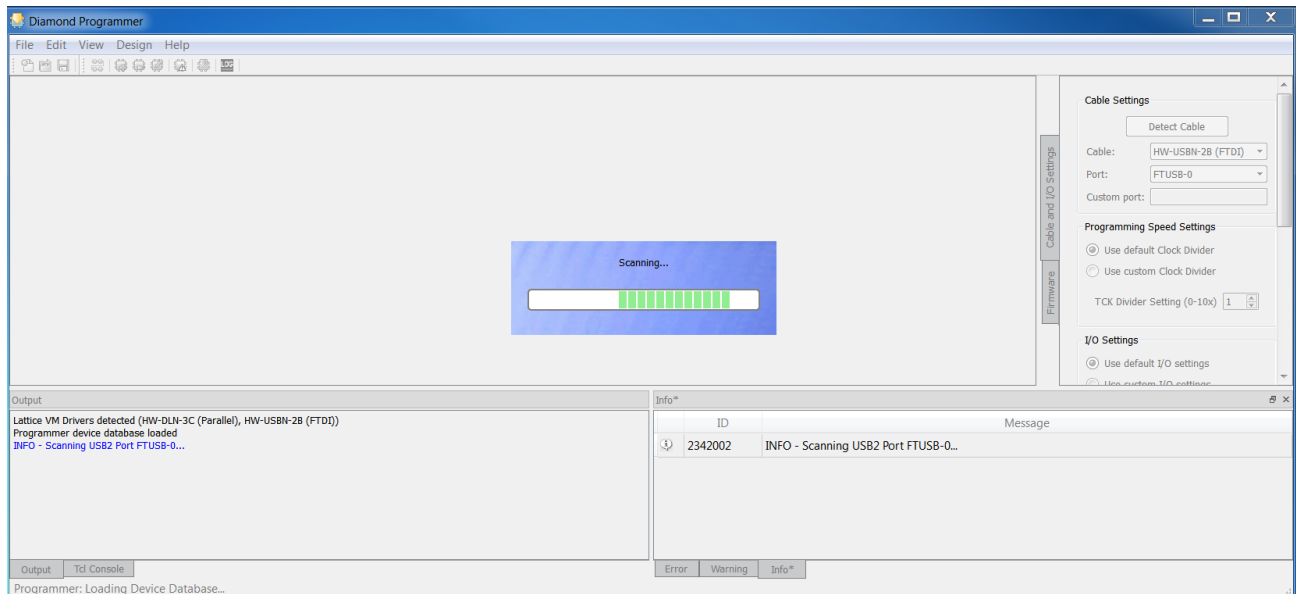

Figure 6.2. Scanning
2. Click **OK**. The Diamond Programmer automatically starts scanning. The scanning page appears as shown in Figure 6.2.